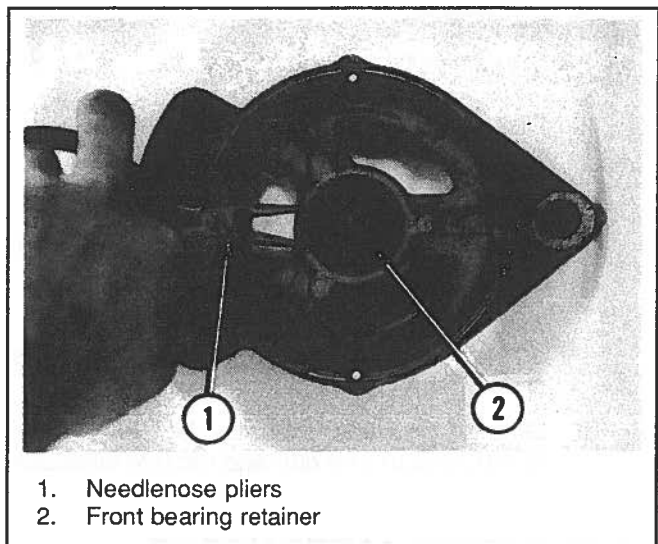

Figure 6-100. Removing Front Bearing Retainer
13. Compress ears of front-bearing retainer and lift retainer free of recess in front end-frame. Tap pulley end of rotor shaft with a rawhide mallet to remove rotor and front bearing assembly. See Figure 6-100.